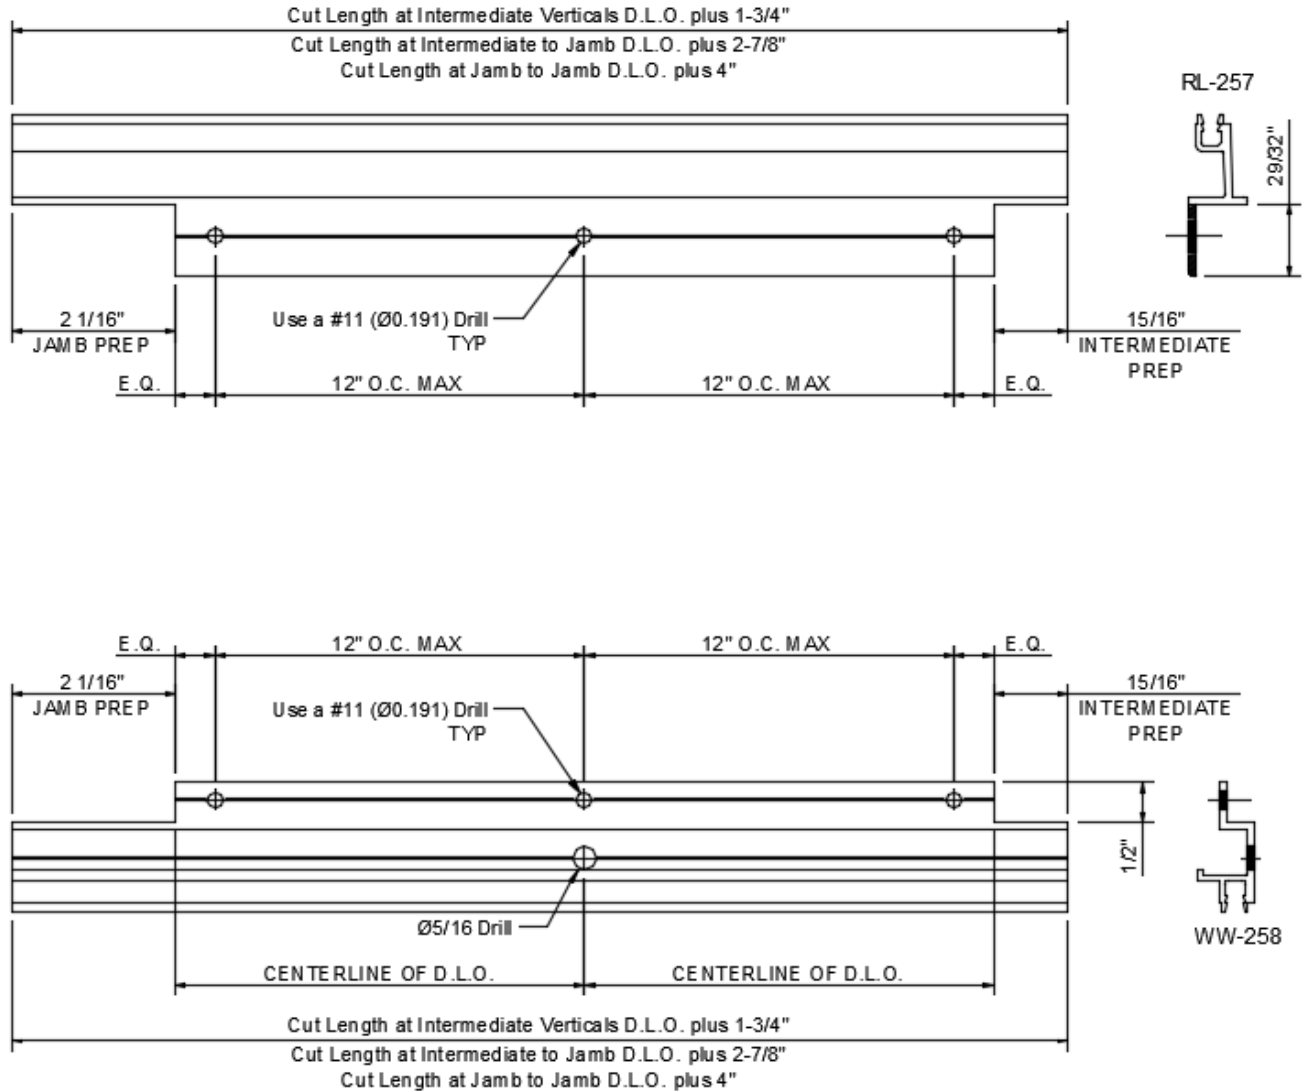

Figure 20: Horizontal Fabrication at Expansion Horizontal
- 7.5 Fabricate each end of the horizontal expansion gasket retainers as shown in *Figure 20*.